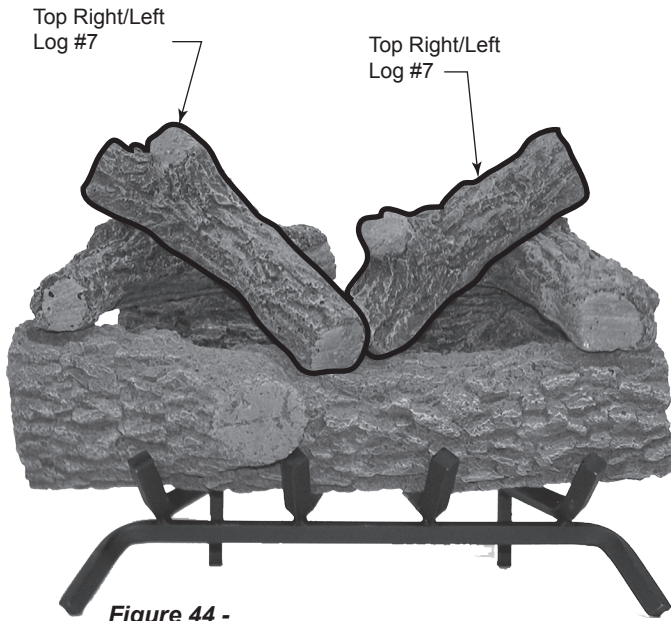

Figure 44 - Place Top Right/Left Logs
5. Rest Top Right/Left Log #7 on Log # 4 and Log #1. *Figure 44*
6. Rest Top Right/Left Log #7 on Log #4 and Log #1. *Figure 44*